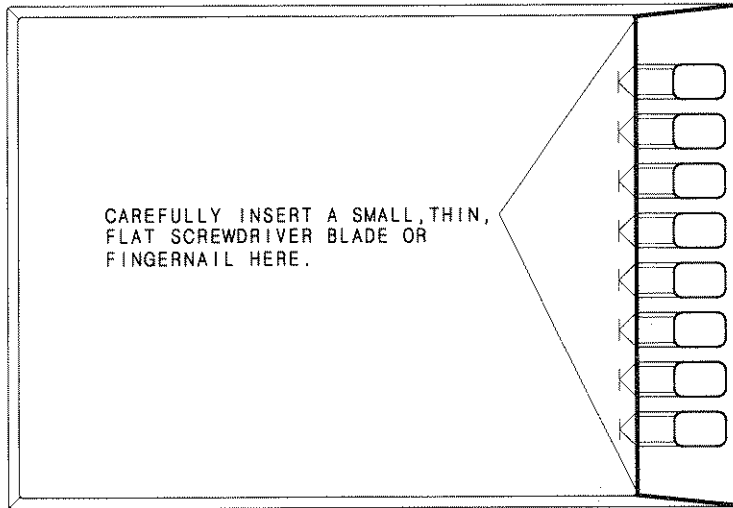

Figure 2. Removing the Softkeys Cover.
- a. On the upper or lower left corner of the softkeys cover, *carefully* insert a small, thin, flat screwdriver blade, or a fingernail, between it and the glass cover (see Figure 2 on the next page). If you are using a screwdriver, be extremely careful not to scratch or break the glass.